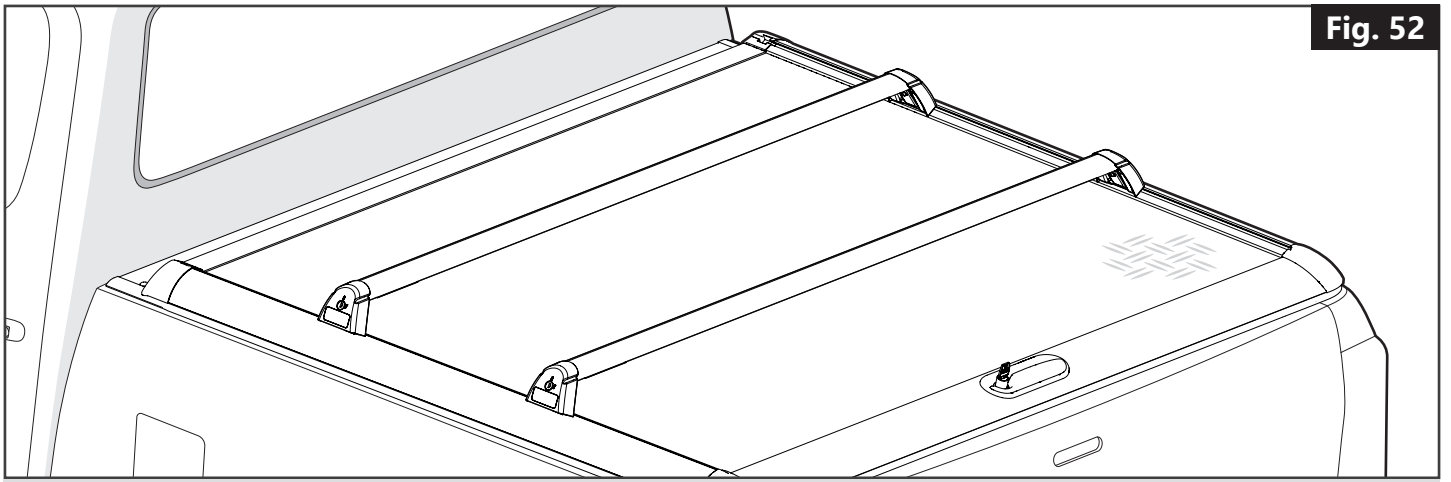

Fig. 52
- Mountain Top Cargo Carrier. (*Fig. 52*)